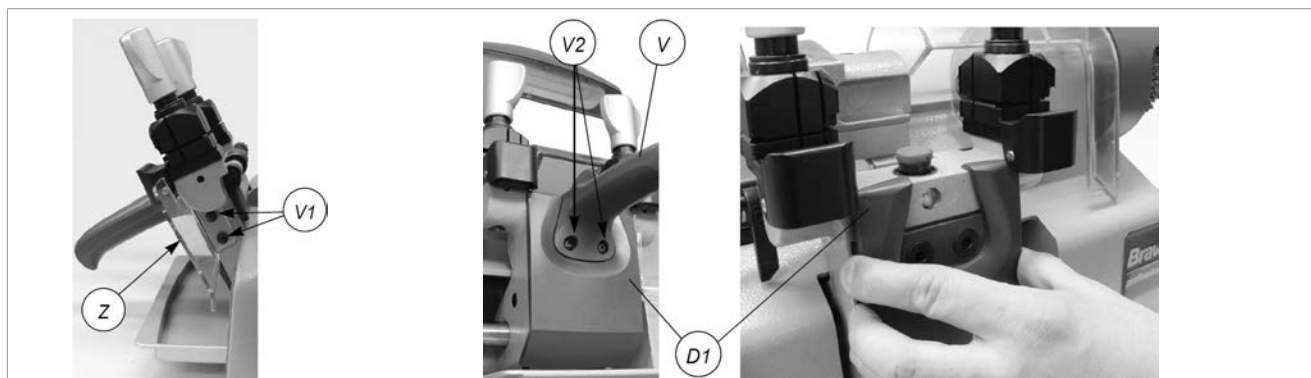
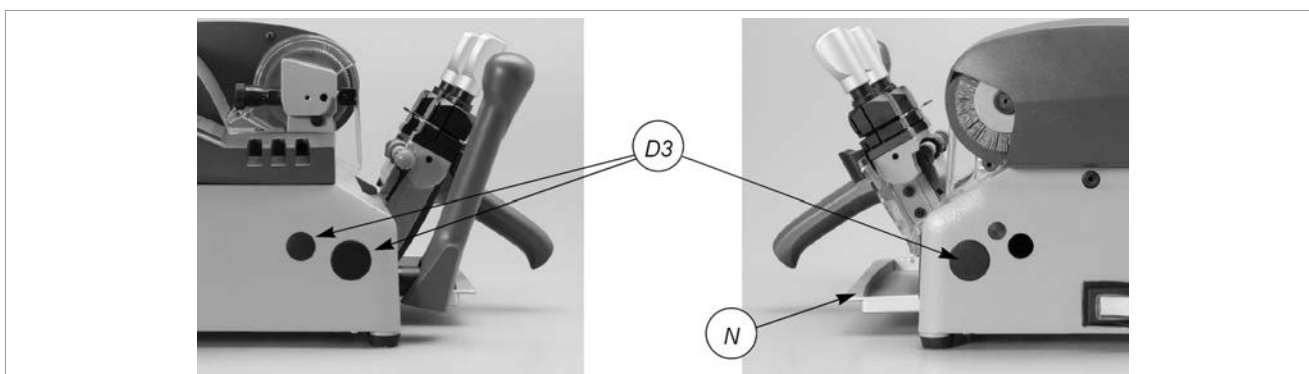
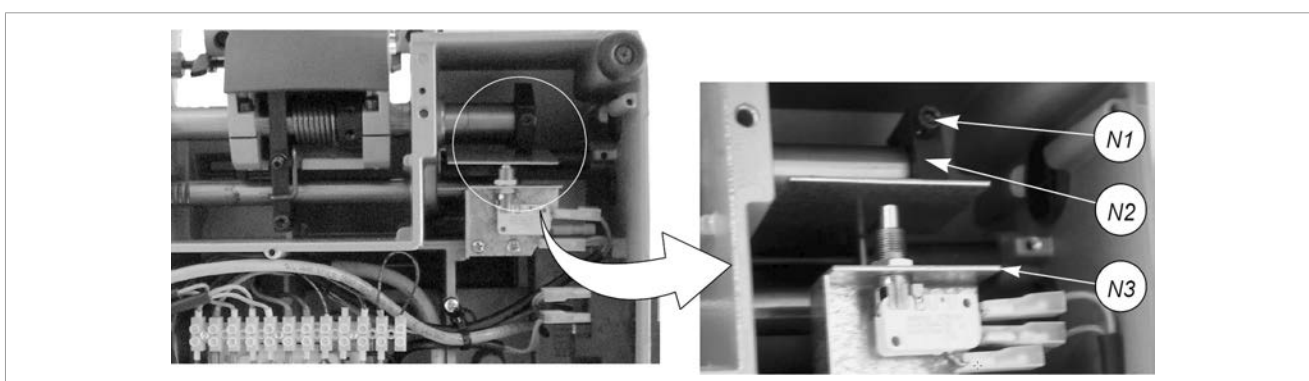

Fig. 45
Fig. 47
Fig. 48
- 2) Loosen the 2 screws (V1) and remove the protection from swarf (Z) (Fig. 45).
- 4) Loosen the 2 screws (V2) on the carriage knob (V) (Fig. 45).
- 5) To remove the knob (V), raise a little and pull off.
- 8) Remove the caps (D3) from the base (Fig. 47, page 30).
- 9) Remove the swarf tray (N).
- 11) Loosen the 7 screws (W) and 2 feet (W1) and remove the bottom panel (W2) (chap. 7.8).
- 12) Loosen the screw (N1) on the cam (N2) (Fig. 48, page 30) and pull the cam to the right to remove.
- 18) Replace the cam (N2) so that it pushes the plate (N3) hard up against the microswitch; tighten the screw (N1) (Fig. 48, page 30).
- 19) Replace the bottom panel and fix with the 7 screws (W) and 2 feet. Fit the swarf tray.
- 22) Replace the carriage safety shield (D1) and fit the knob (V), pressing it downwards.
- 24) Replace the protection from swarf (Z) and tighten the 2 screws (V1).